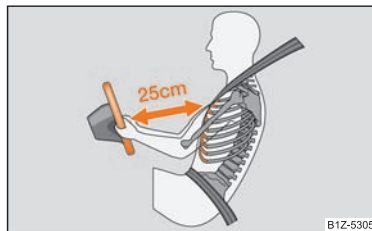

Fig. 137 Safe distance to steering wheel
- For the driver and front passenger it is important to maintain a distance of at least 25 cm from the steering wheel or dash panel ⇒ fig. 137. Not maintaining this minimum distance will mean that the airbag system will not be able to properly protect you - hazard! The front seats and the head restraints must always also be correctly adjusted to match the body size of the occupant.